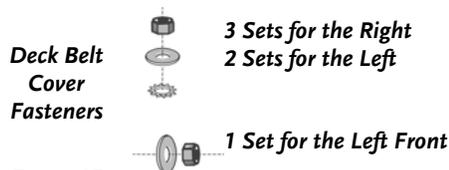

Figure 17
2. Using a 7/16" Wrench and/or Socket, remove the two (2) smaller Left and Right black Belt Covers (**Figure 17**).
5. To mount the new Belt, follow the above procedure in reverse. See **Figure 7** on page 15 for the correct Belt travel on the Pulleys. Note the proper hardware sequence in **Figure 17**.